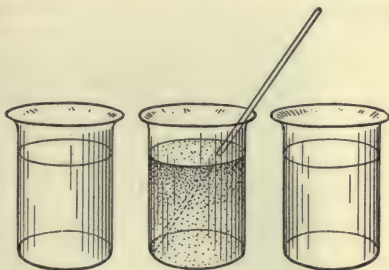

FIG. 227. — From the mingling of two liquids a solid is sometimes formed.
**The constructive action of water.** — Water does not always act as a destructive agent; what it breaks down in one place it builds up in another. It does this partly by means of precipitation. Water dissolves salt, and also dissolves lead nitrate, but if a salt solution is mixed with a lead nitrate solution, a solid white substance is formed in the water. This formation of a solid substance from the mingling of two liquids is called precipitation (Fig. 227). Such a process occurs daily in the rocks beneath the surface of the earth.